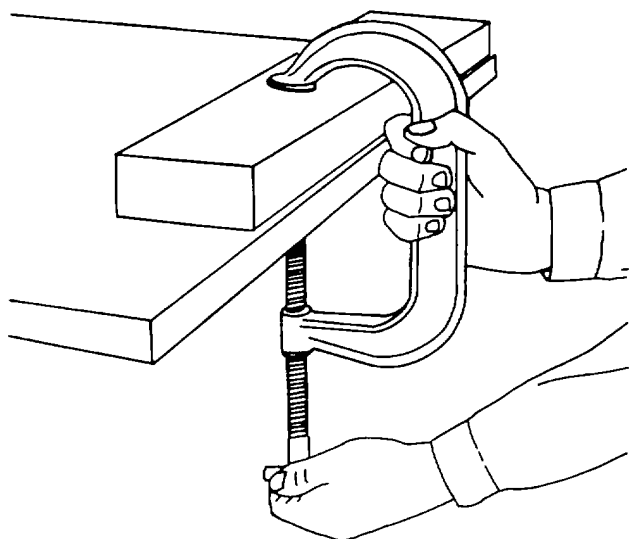

Figure 4-56. Using Carriage Clamp
- (d) As shown in figure 4-56, place the clamp in position, and tighten the operating screw until contact is made with the item being clamped.